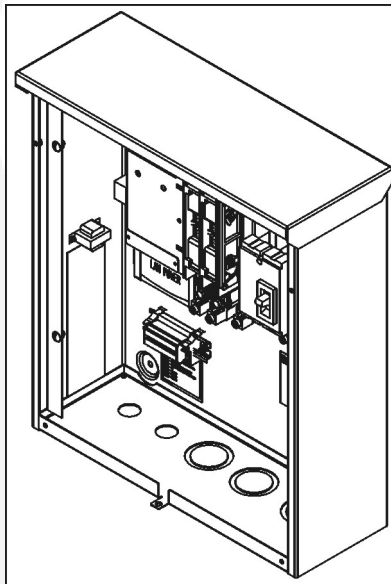

FIGURE 3. RSS TRANSFER SWITCH WITHOUT CONTROLLER, ONE BREAKER WITH DOOR PANELS REMOVED
- Section 7.4 provides information on how to troubleshoot transfer switches that include a circuit breaker but do not include a controller, see Figure 3.